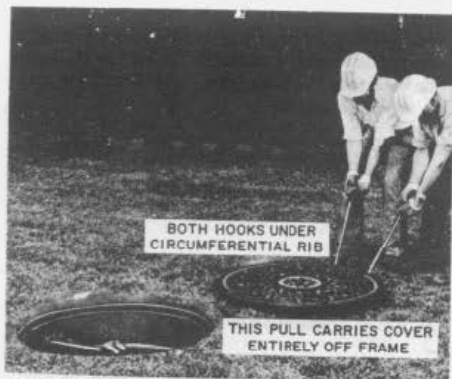

Fig. 37—Sliding Cover Clear of Frame—Two-Person Method
- (5) While the person on the pulling side still has the manhole hook engaged, the other crafts-person moves around and engages the hook under the circumferential rib. The craftspersons then assume positions so that the cover can be pulled clear of the frame (Fig. 37).